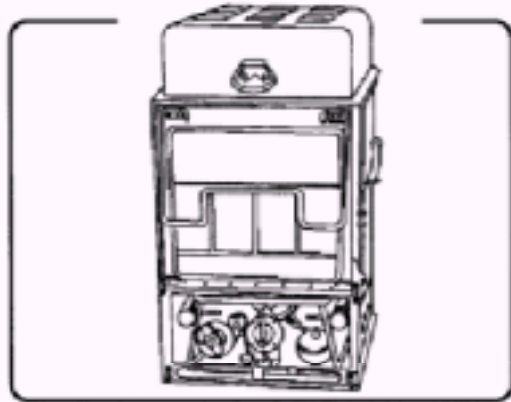
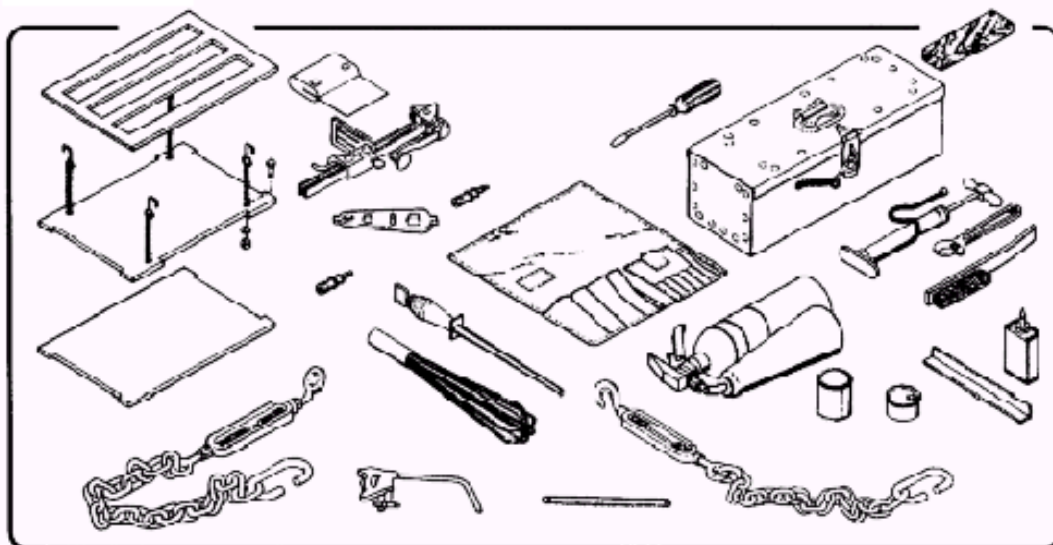

Figure 3-2. M59 field range.
Figure 3-3. M59 field range accessory kit.
b. M59 Field Range Outfit and Accessories. The M59 field range outfit is portable and can be adapted to many different cooking configurations. One field range outfit may be used to cook for up to 50 people. Field ranges are grouped together to cook for more than 50 people. Each field range comes with pots, pans, and cooking and serving utensils. One accessory outfit is authorized for every one to four ranges. Figure 3-2 shows the M59 field range. Figure 3-3 shows the accessory kit. For more information on the field range and accessory outfit, see TM 10-7360-204-13&P.